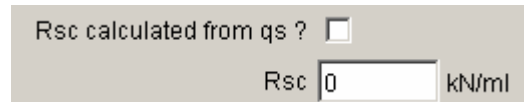

Figure 43: reinforcement dialogue box: tab 1 (nails)
- or is directly input by the user (unit of force/m along nail): Figure 43.